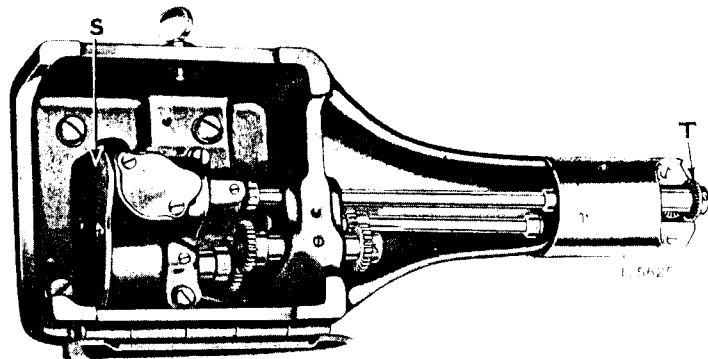

Fig. 15. Base View of Machine, Showing Oiling Points
Occasionally remove the cover (S, Fig. 15) of the gear case on the underside of the bed of the machine and fill the gear case
**To see if the sewing hook is in correct time.** Remove the cylinder end cover, slide and throat plate and turn the balance wheel toward you until the needle bar has passed its lowest position and risen so that the lower mark on it is even with the under-side of the arm head. If in correct time, the point of the hook will be at the centre of the needle and  $\frac{1}{8}$  inch above the eye; if not, loosen the screws in the bevel gear (T, Fig. 15) on the shaft under the hook and turn this gear forward or backward slightly until the hook is in time as instructed above, then retighten the screws. On very heavy work it may be necessary to set the needle bar a little lower and the hook slightly slower than the above rule.